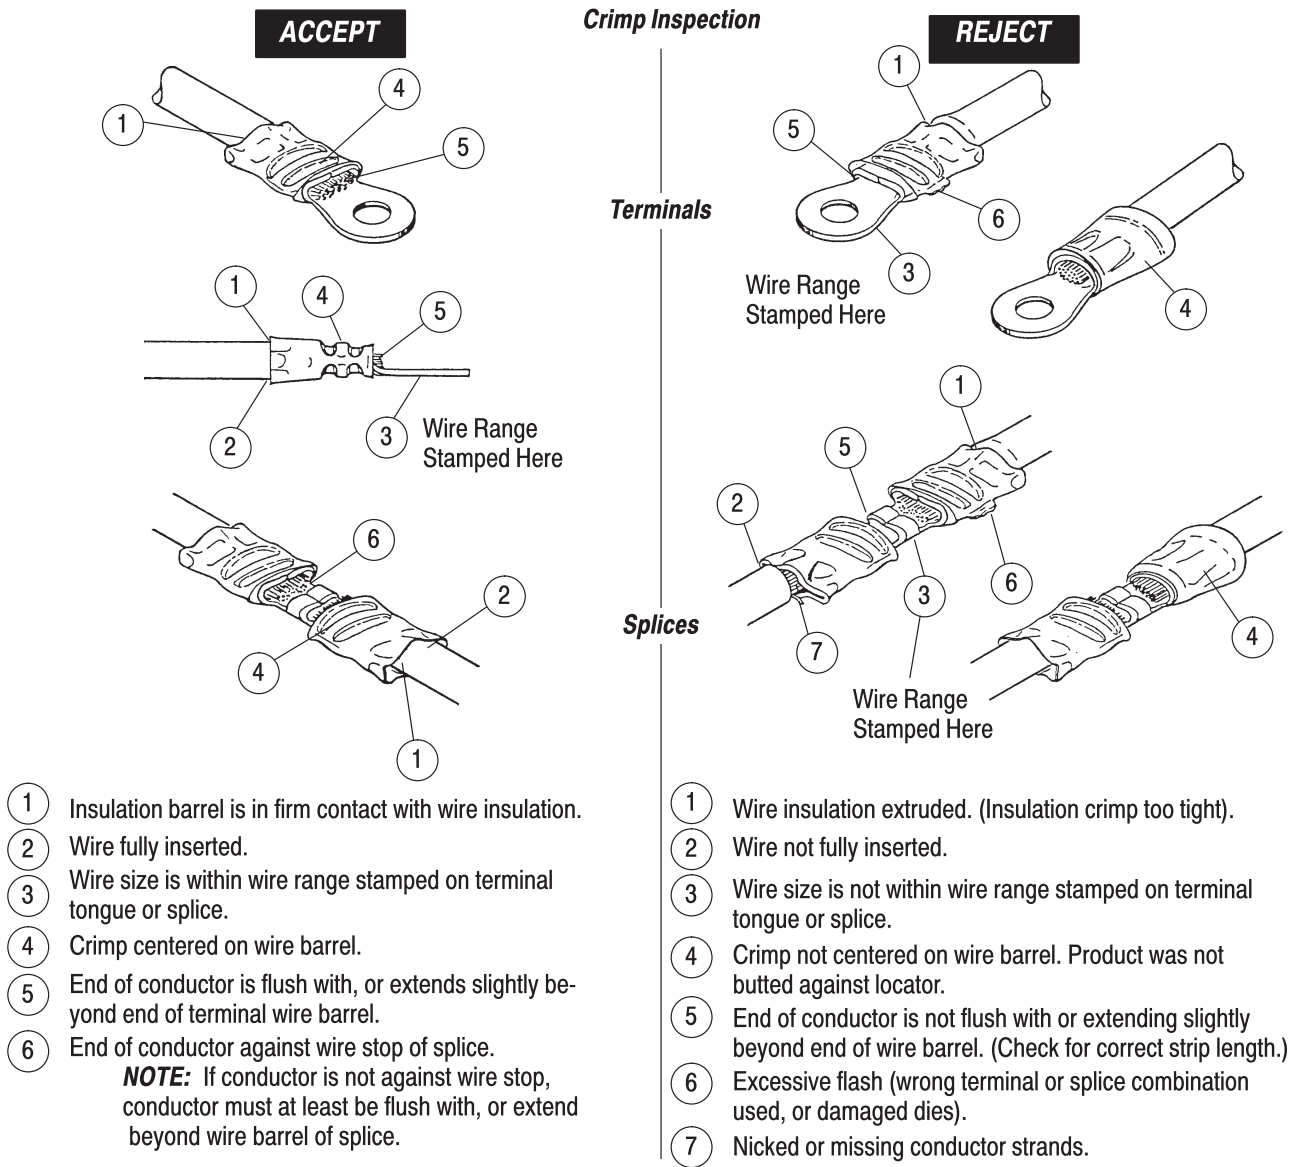

Figure 6
6. Refer to Section 5 and Figure 6 for crimp inspection.
7. Refer to Section 5 and Figure 6 for crimp inspection.
Inspect crimped terminals and splices by checking the features described in Figure 6. Use only terminals or splices that meet the conditions shown in the “ACCEPT” column. “REJECT” terminations can be avoided through careful use of instructions in Section 4, and by performing regular head maintenance, as described in Section 6.